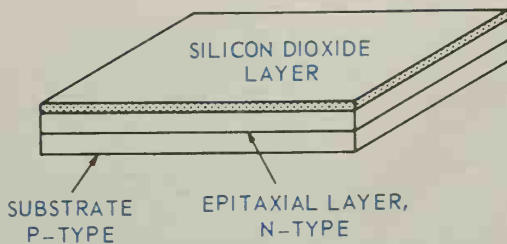

Fig. 19-9. Steps 1 and 2 in the process of making an IC.
2. Next, a thin coat of silicon dioxide is grown over the N type material by exposing the wafer to an oxygen atmosphere at about 1000 deg. C. Steps 1 and 2 are illustrated in Fig. 19-9.